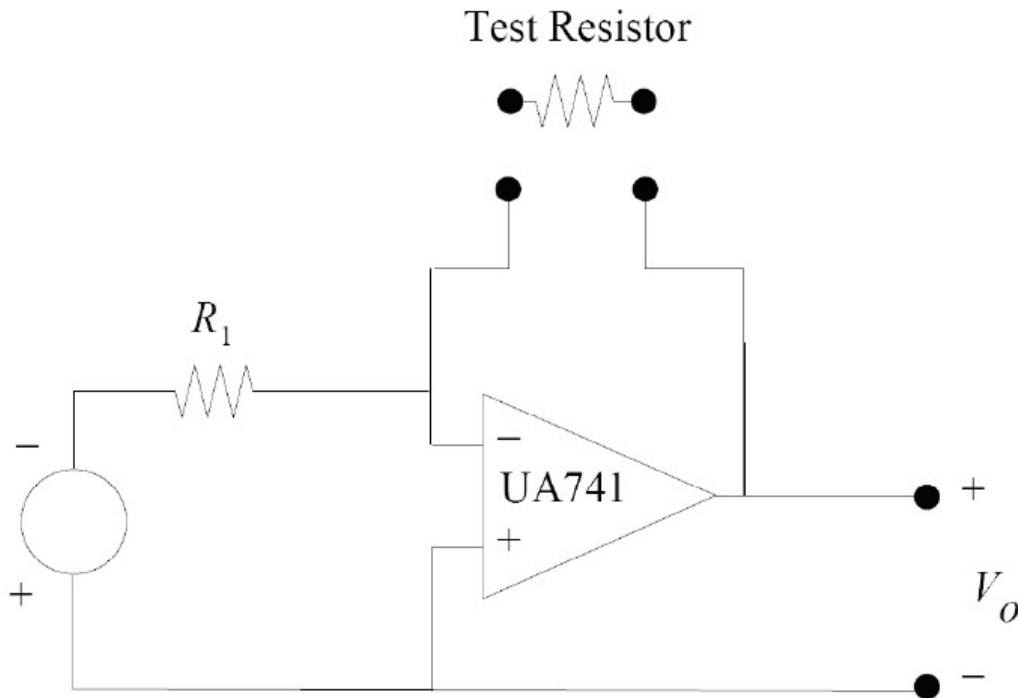

Figure 1
2. The operational amplifier, or op-amp, circuit shown in Figure 1 is proposed as an ohmmeter to measure unknown resistances. Find a value for  $R_1$  so that the voltmeter connected to the output will read the resistance in kilo-ohms (i.e. 1 V = 1 k $\Omega$ , 2 V = 2 k $\Omega$ ) when the voltage source is 1V.
**Important Note:** Please remember to turn off all power supplies to your circuit before making modifications to your circuits, such as when you move the test resistor in Figure 1 in and out of the circuit, since that eliminates the critical feedback path. Failure to turn off all power supplies will probably damage your op-amp in some way resulting in unpredictable behavior of your circuit.
- B1.** Create the circuit shown in Figure 1 with  $R_1 = 1 \text{ k}\Omega$ , and perform the following experiment.